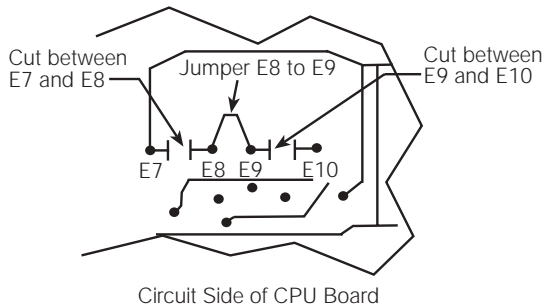

Figure 2-2. Circuit Trace Setup
- Cut circuit traces between E7/E8 and E9/E10 as indicated with a sharp instrument like a razor blade or an X-acto® knife. Refer to Figure 2-2.